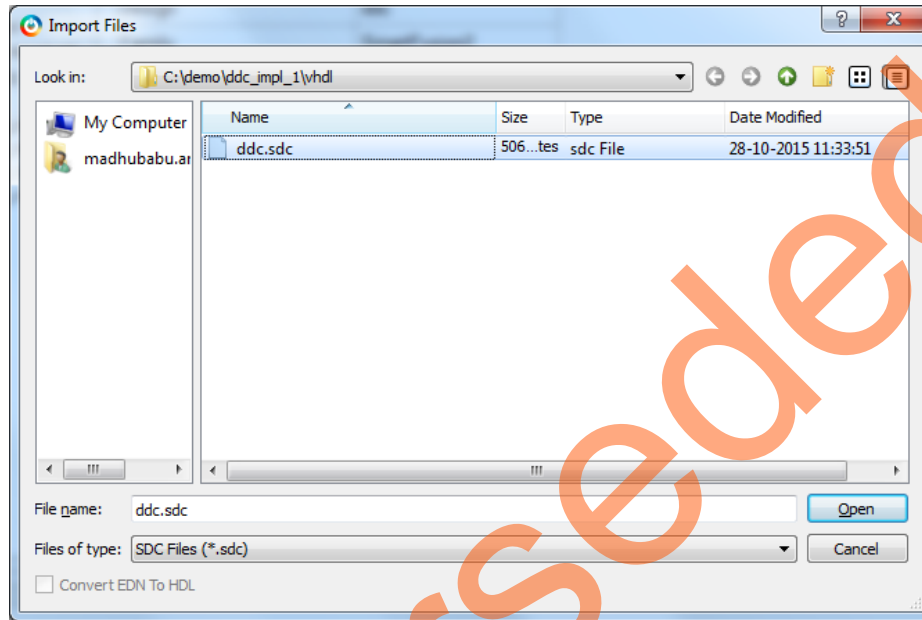
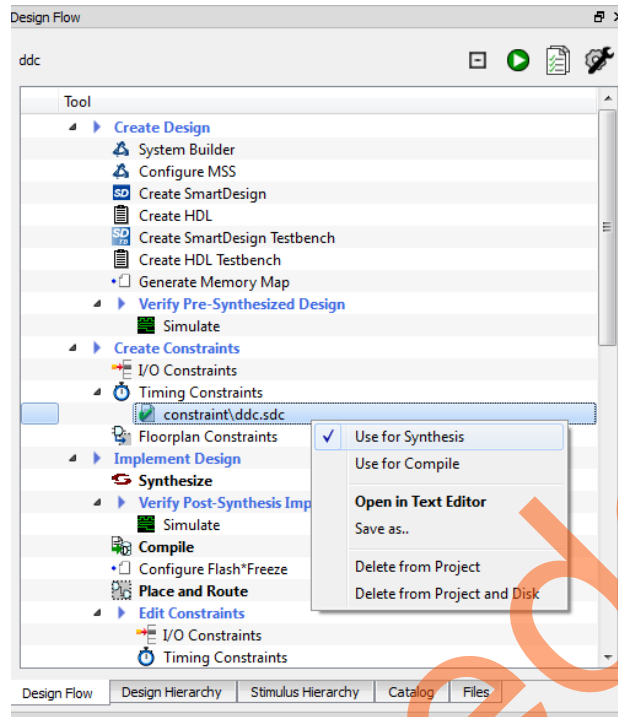
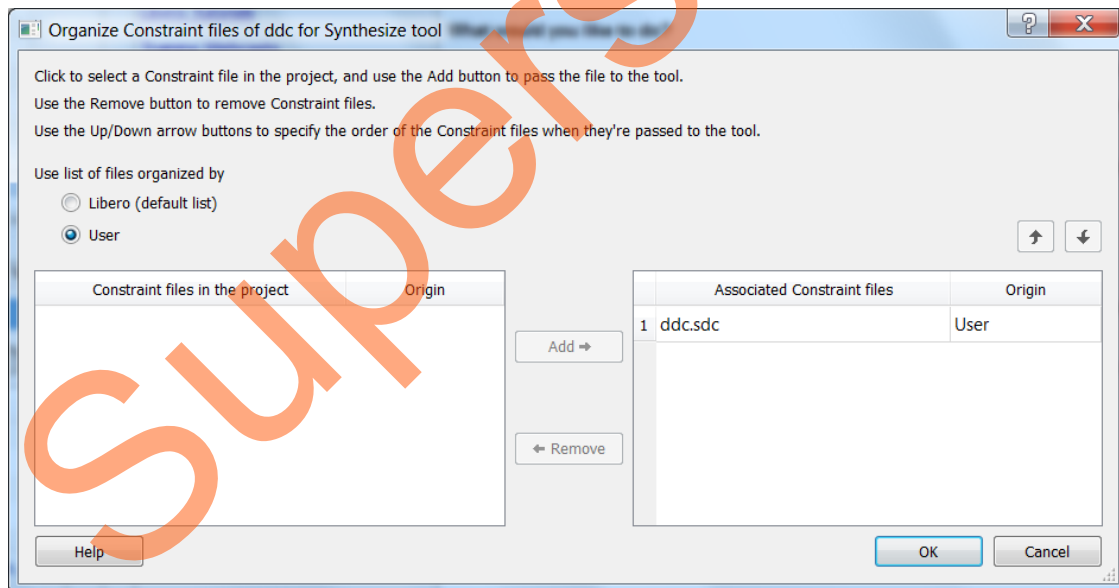

Figure 27. Importing SDC Source File
Figure 28. Selecting Constraints to Synthesis Tool
Figure 29. Organize Constraint Files of ddc for Synthesis Tool
1. Add constraints by adding the SDC file (ddc.sdc) to the Synthesis tool from the path C:\demo\ddc_impl_1\verilog or C:\demo\ddc_impl_1\vhdl, as shown in Figure 27, Figure 28, and Figure 29.